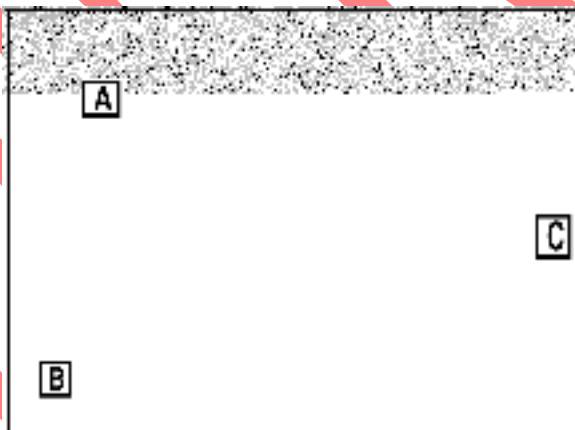

Fig. 16
Disconnect vacuum line (A) and fuel line (B) to the fuel pump ([C] Fig. 16). Remove two screws that secure mounting bracket to crankcase. Remove pump from bracket (if necessary).